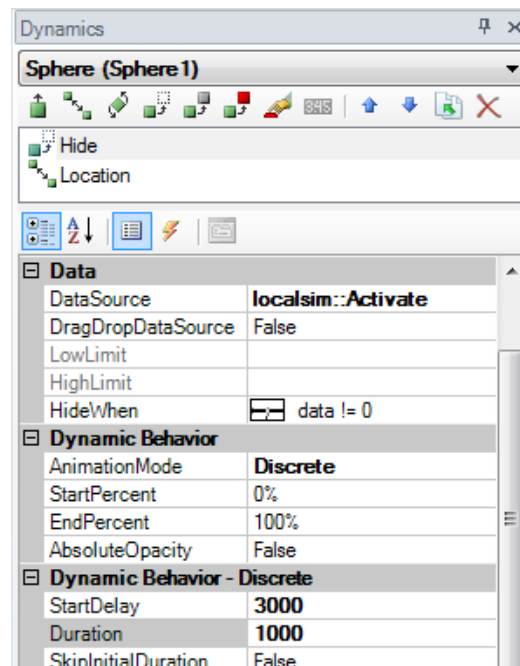

Figure L5.6 - Hide Dynamic Properties
12. Make sure the AnimationMode is Discrete and change the StartDelay field to 3000 and the Duration to 1000. The properties for the Hide dynamic should look similar to Figure L5.6.